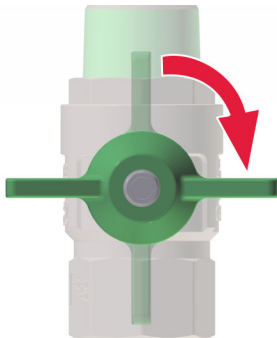

Fig. 36: Closing the main shut off valve
1. ➤ Close all main shut off valves (Fig. 36) on the fresh hot water station.